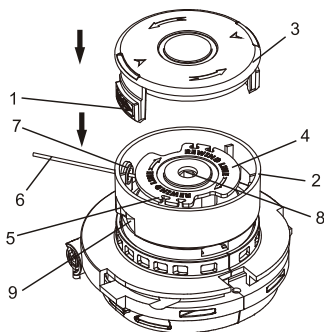

Fig. 17
2. Pull the loose end of the trimmer line out of the retaining slot (5) in the spool (Fig. 17).
- Carefully wind the trimmer line onto the spool evenly to avoid overlapping wraps that will cause further jamming (Fig. 17).